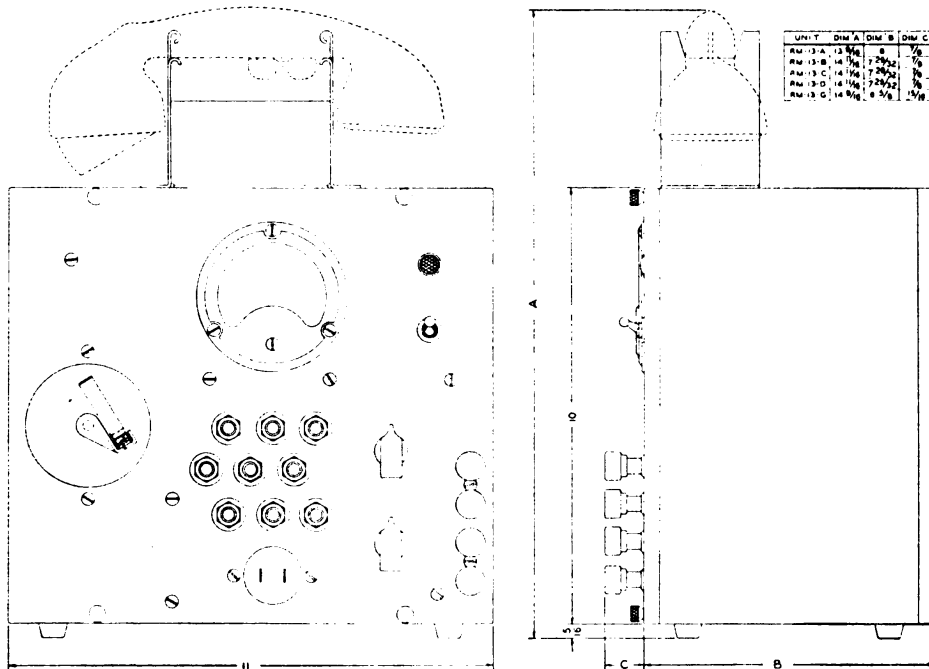

Fig. 12—Remote Control Unit RM-13-(*)—outline dimensions
b. **Control Unit RM-13-(*)** is also a self-contained unit, the dimensions of which are as shown in figure 12. All control and indicating equipment, switching, and provisions for external connections are panel mounted and consist of the following:
- (1) 1 – Volume indicator meter (–10 to +6 db scale)
- (2) 1 – Volume control switch
- (3) 3 – Microphone jacks
- (4) 3 – Key jacks
- (5) 1 – Three-pole, three-position selector switch
- (6) 1 – S.P. S.T. power switch
- (7) 1 – Pilot indicating lamp
- (8) 1 – Power Socket
- (9) 4 – Binding posts (line connections)
- (10) 1 – Telephone EE-8-B, crank